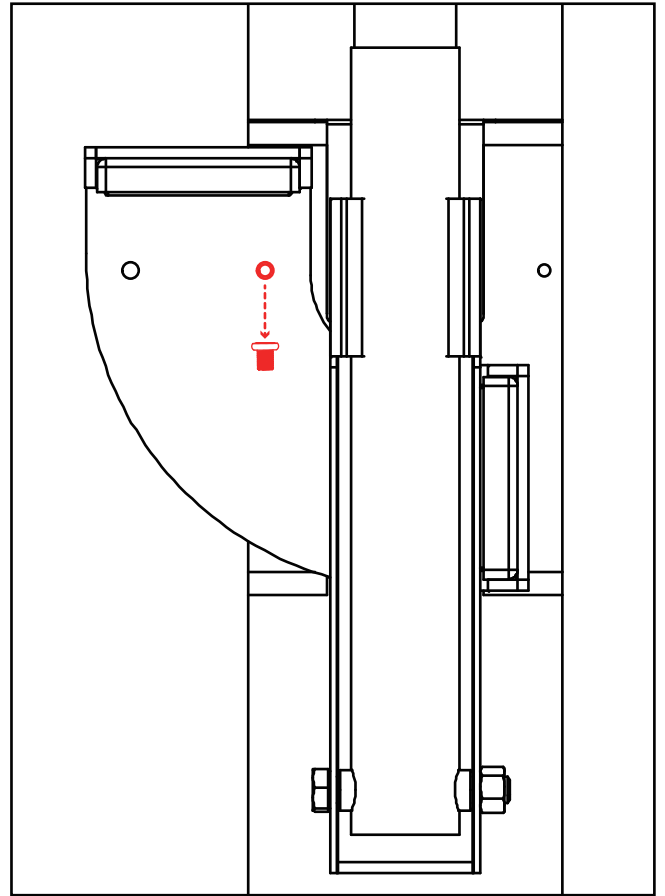

Figure 11
Step 2. Make the barrier boom is in a vertical state, and then remove the last screw on the mechanical limited block, as shown in the figure 11.